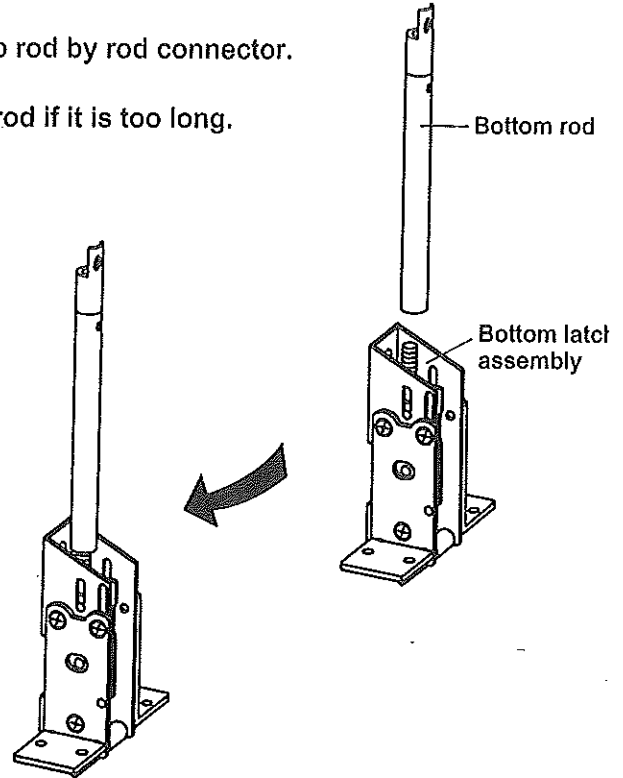

Figure 2-1
1. Screw bottom rod into bottom latch assembly. (See Figure 2-1.)